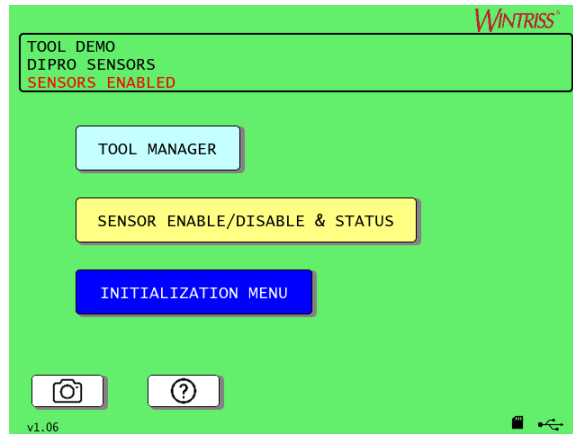

Figure 3-1. Main Program Menu
2. Turn the PROG/RUN key switch to PROG. The Main Program menu appears, Figure 3-1.
1. Turn the PROG/RUN key switch to PROG. The Main Program menu appears, Figure 3-1.